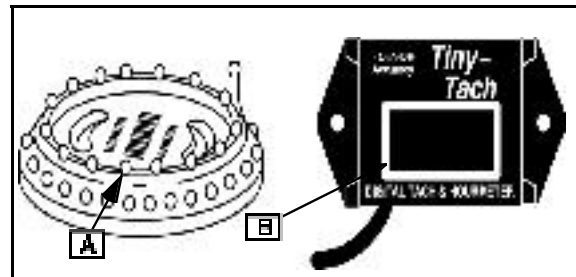

Fig. 13
Tachometers are available from your Briggs & Stratton source of supply. Order Tachometer #19200 (A) or Digital Tachometer & Hourmeter #19389 ([B] Fig. 13).